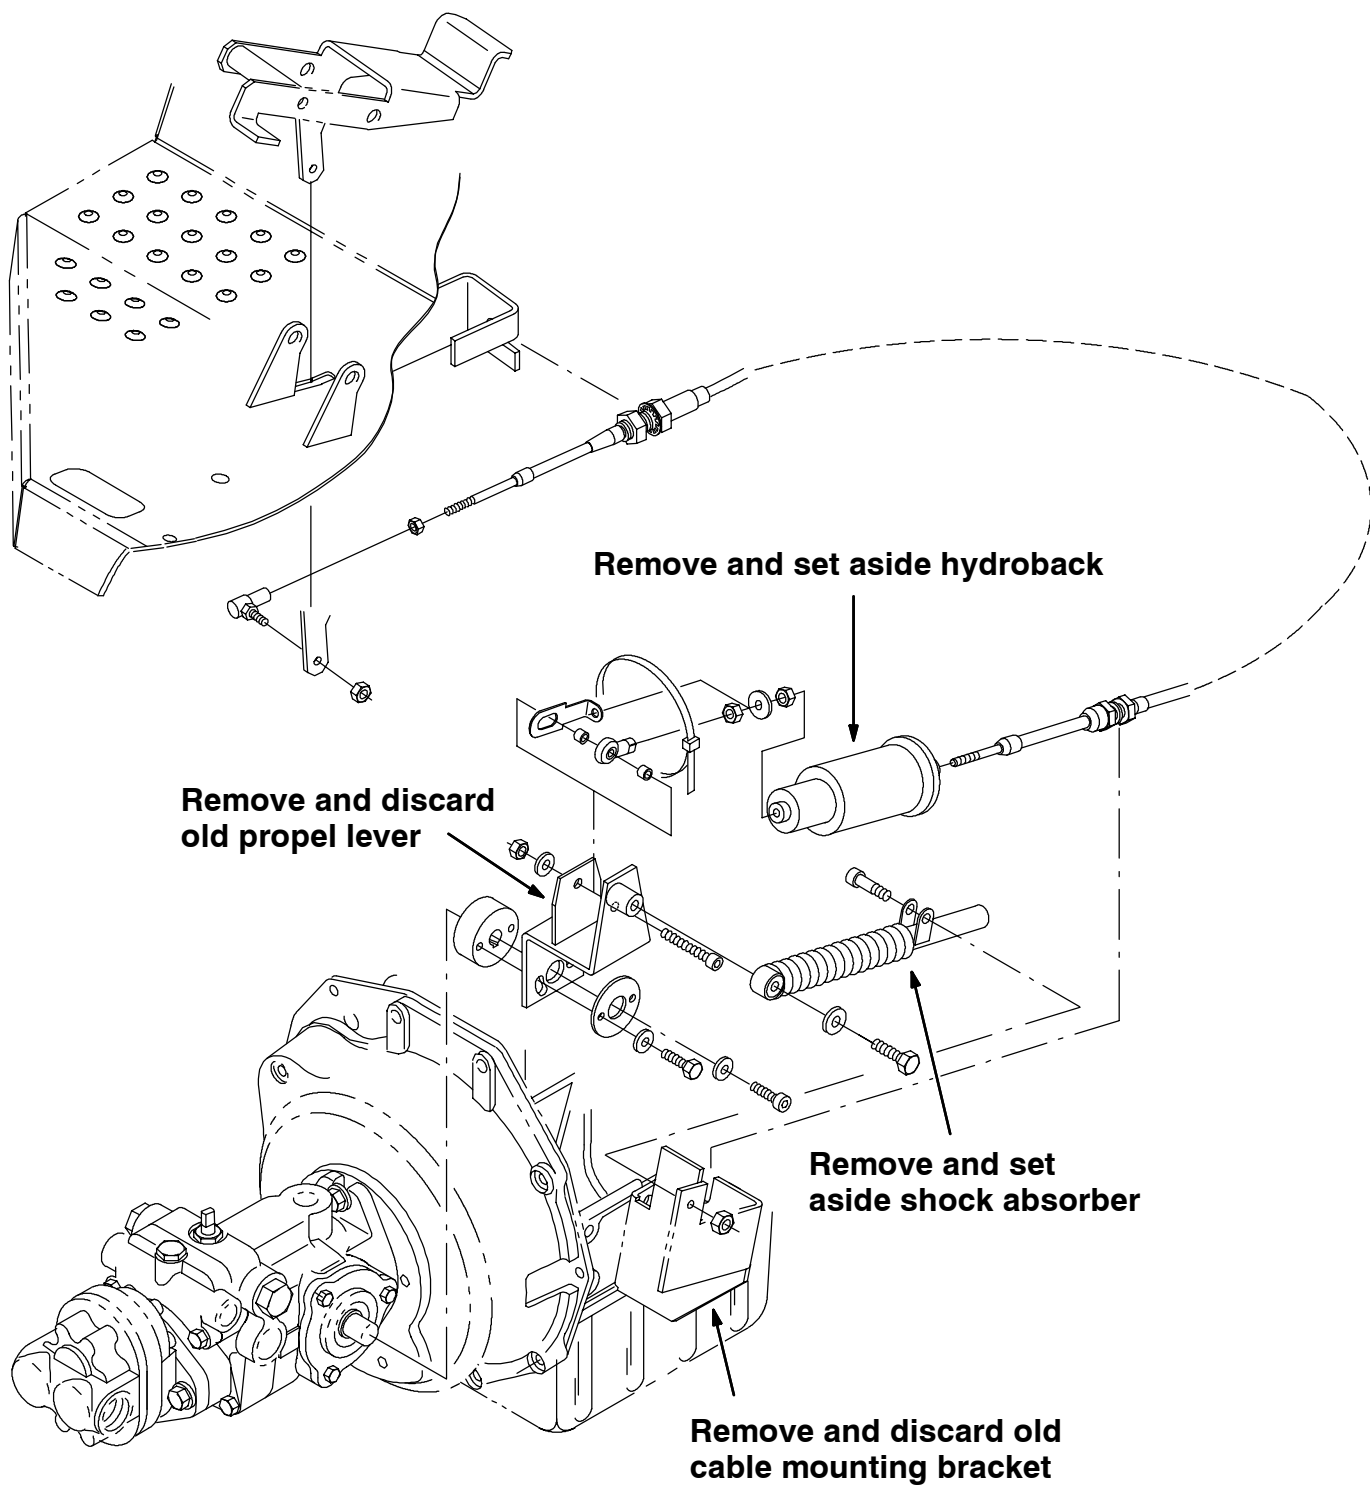

FIG. 1 - OLD HYDRAULIC PUMP LINKAGE BREAKDOWN
(Refer to FIG. 1 and 2)
3. Locate the hydraulic pump linkage group on the side of the hydraulic pump, facing the rear of the machine. (Refer to FIG. 1)
1. Disconnect the old propel lever plate from the hydraulic pump hub. Set the spacer washer, and mounting hardware aside. (Refer to FIG. 1)
2. Disconnect the shock absorber from the propel lever plate and the cable mounting bracket. Set the shock absorber, and mounting hardware aside. (Refer to FIG. 1)
3. Loosen the propelling cable from the bulkhead. (Refer to FIG. 1)
4. Carefully disconnect the rod end and bracket assembly from inside the propel lever plate. Discard the old propel lever plate. Disconnect the propelling cable from the hydroback. Set the hydroback aside. (Refer to FIG. 1)
5. Remove and discard the old bulkhead from the machine. (Refer to FIG. 1)
NEW HYDRAULIC LINKAGE INSTALLATION: (Refer to FIG. 1, 2 and 3)